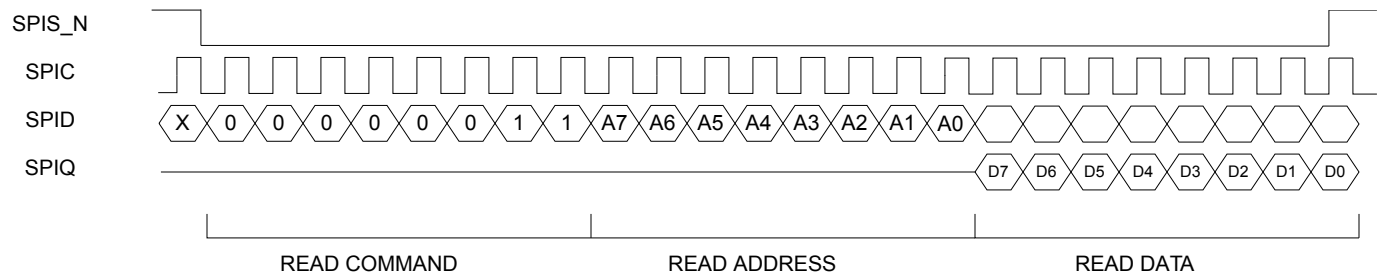
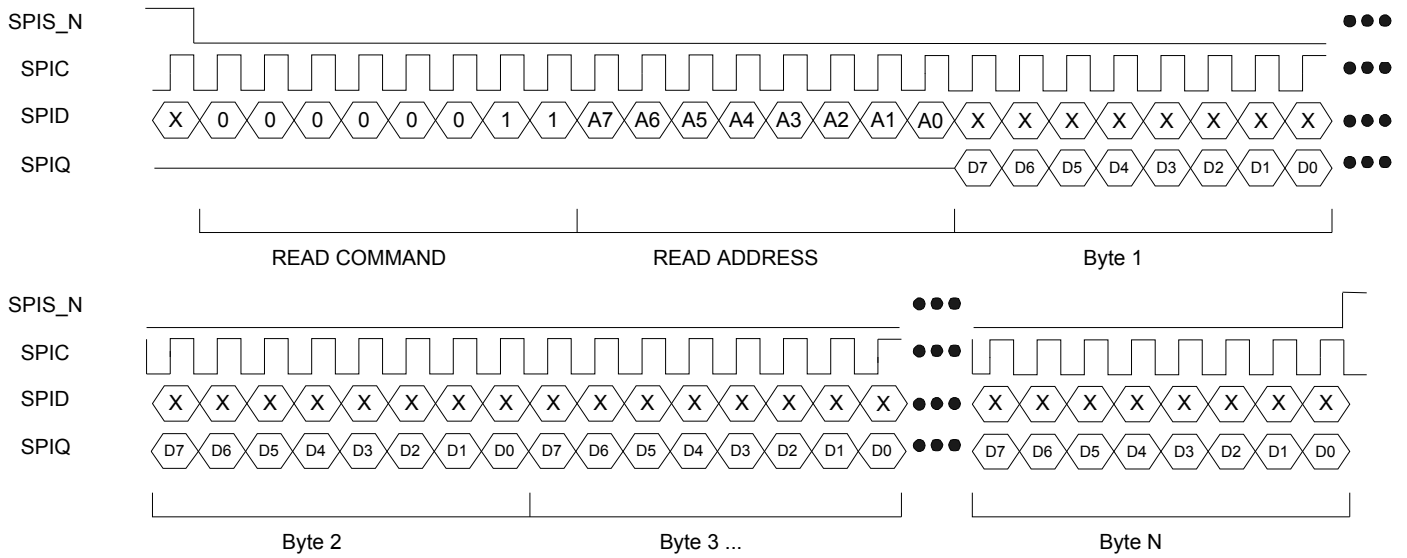

Figure 10. SPI Read Data Cycle
Figure 12. SPI Multiple Read
If a 2-wire EEPROM exists, then the KSZ8895MQ/RQ/FMQ can perform more advanced features like broadcast storm protection and rate control. The EEPROM should have the entire valid configuration data from Register 0 to Register 255 defined in the "Memory Map," except the chipID = 0 in the register1 and the status registers. After reset, the KSZ8895MQ/RQ/FMQ will start to read all 255 registers sequentially from the EEPROM. The configuration access time (t_{prgm}) is less than 30ms, as shown in Figure 12.
5. Registers can be read and configuration can be verified with a typical SPI read data cycle as shown in Figure 10 or a multiple read as shown in Figure 12. Note that read data is registered out of SPIQ on the falling edge of SPIC.